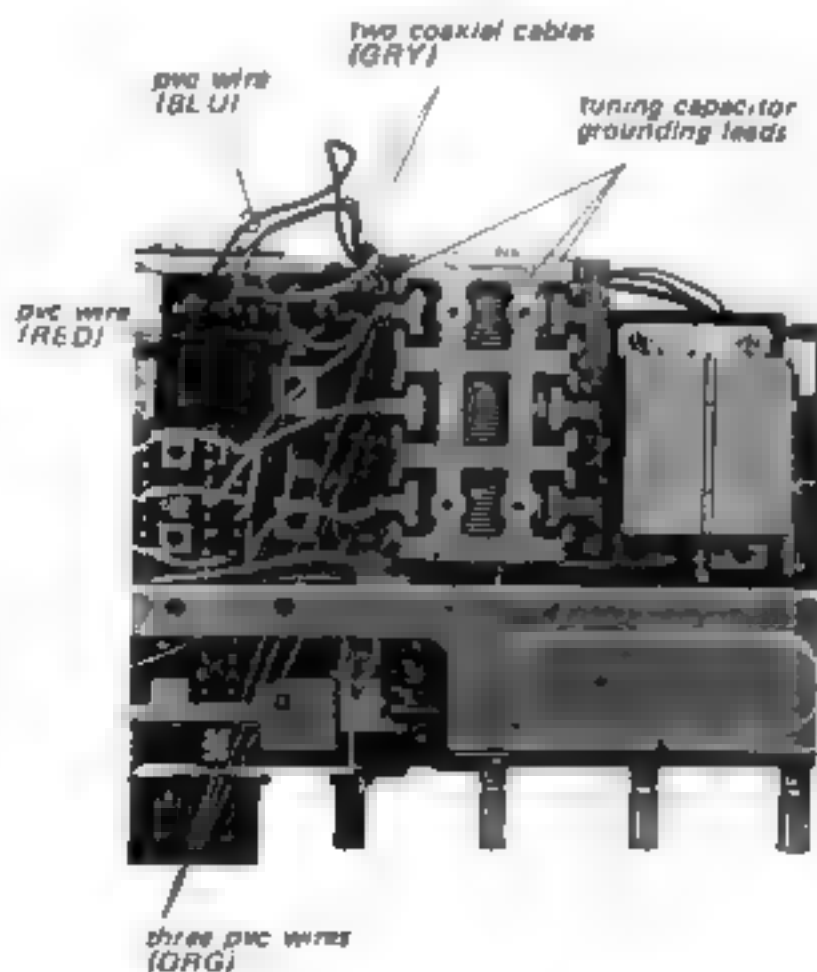

Fig. 2-8
2. Unsolder the ten lead wires shown in Fig. 2-8
- 1 Unsolder the same ten lead wires in Fig. 2-8 as sw tuner removal.